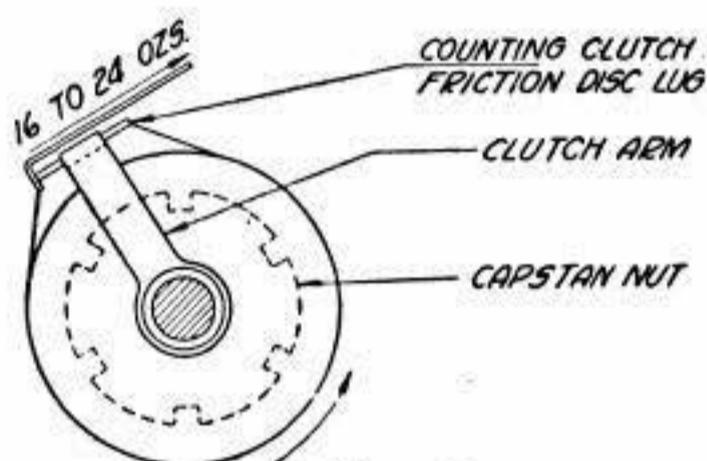

Fig. 13
(a) Hook a scale on the counting-clutch friction-disc lug and pull at right angles to the lug. It should require a pull of Min 16 oz, Max 24 oz as indicated in Fig. 13, to just start the friction disc moving in a direction opposite to that in which the motor drives it.
(1) To adjust, vary the tension by means of the clutch-spring capstan nut and capstan locknut. **Fig. 13**